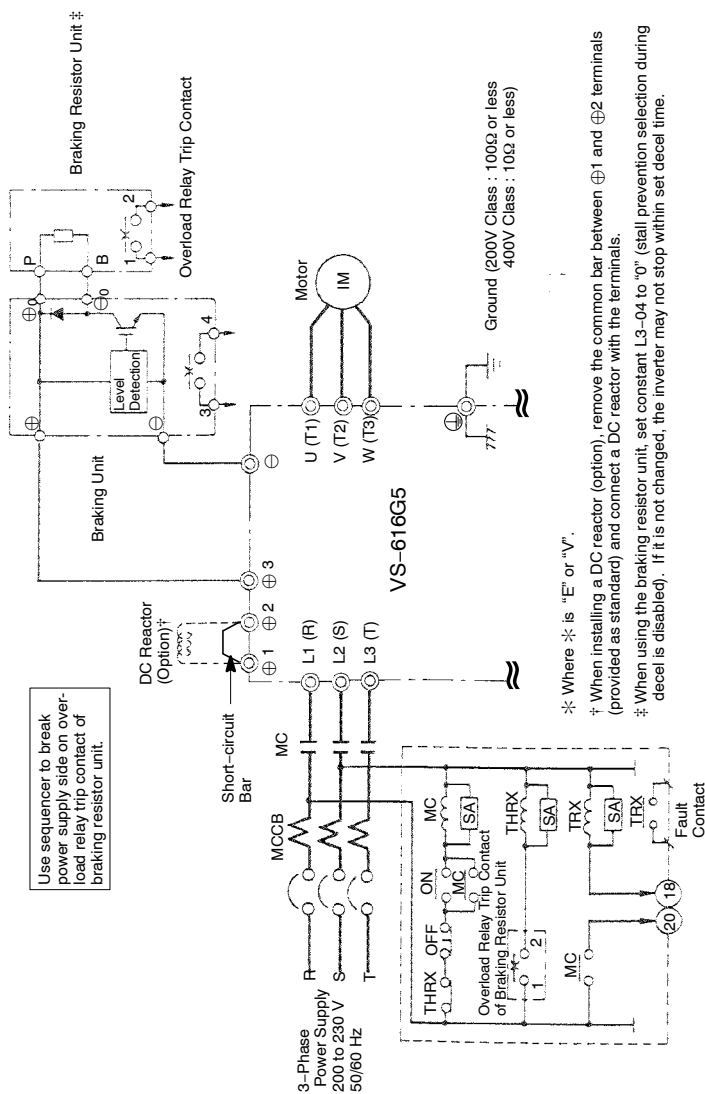

Fig. 15 For Models CIMR-G5:2011 to -G5:2015 (200 V Class 11, 15 kW)
- Connect thermal protector on the braking resistor unit and thermoswitch on the braking unit in parallel. Refer to Figs. 15 and 18 for proper wiring.